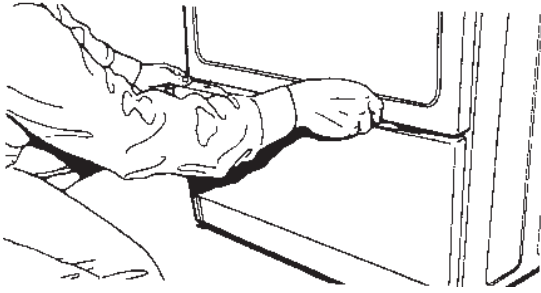

Figure 4
1. Remove toe panel by locating the two (2) toe panel release clips located approximately 4" in from each side. Use a bladed screwdriver to release clips. See Figure 4.